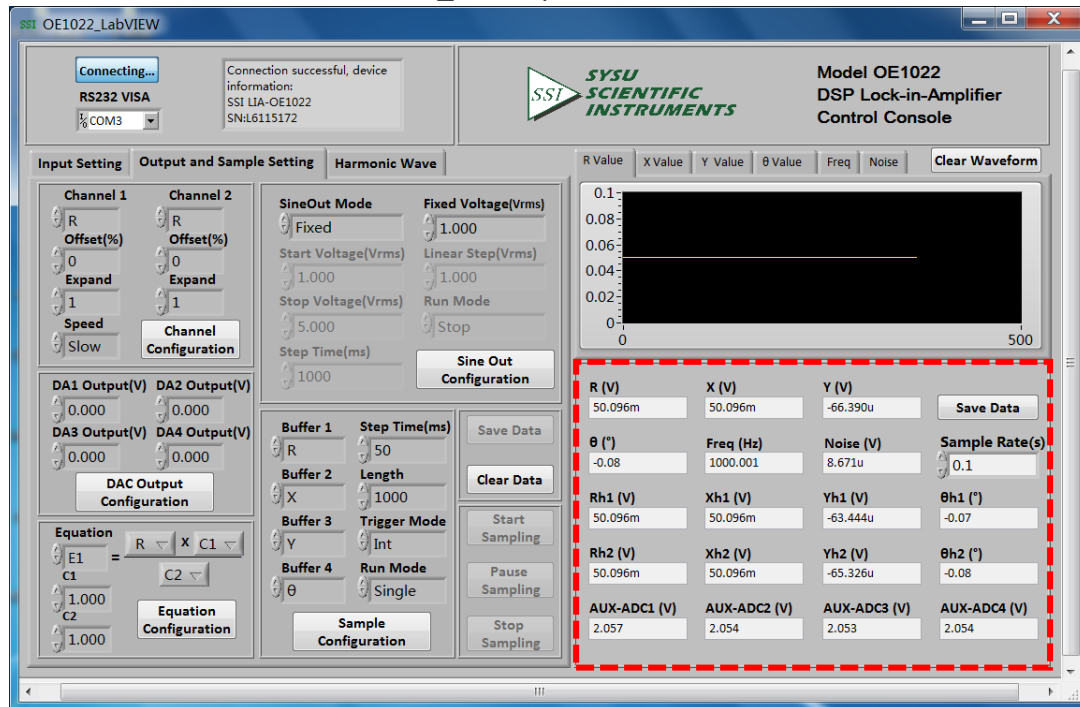

Fig.72 The Configuration Area of Data Storage
2. When the software is executing, click the button **Save Data** in the red box in Fig.72.